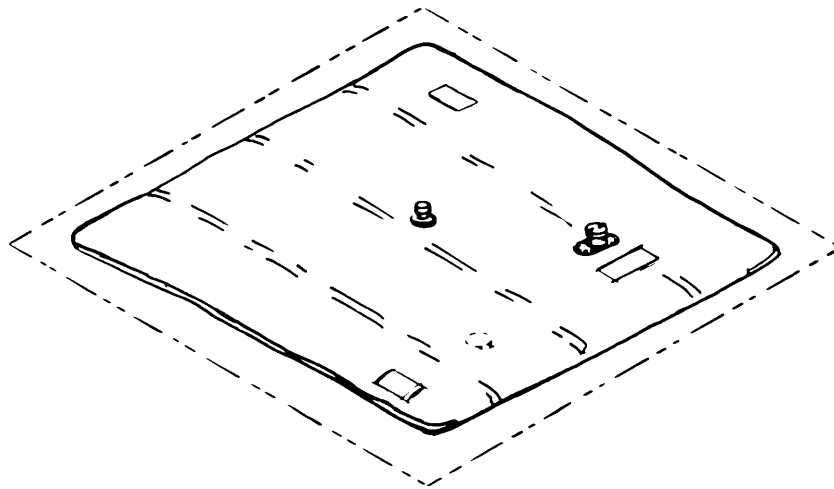

Figure 2-6. Unfolded Tank
- (8) Unfold tank so empty tank lies flat (See Figure 2-6).
- (9) Use tank handles to center tank in prepared site.